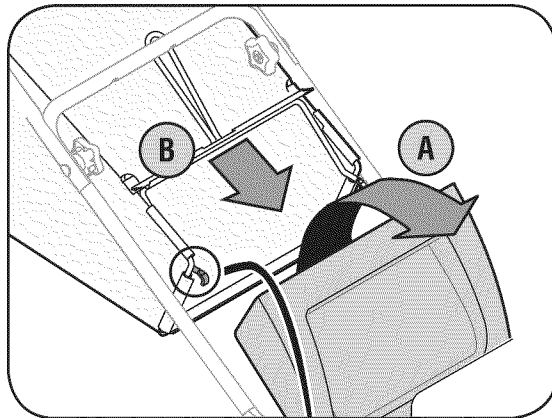

Figure 3-6: Lift discharge door and place grass catcher on rod.
7. Follow steps below to install the grass catcher, Figure 3-6.